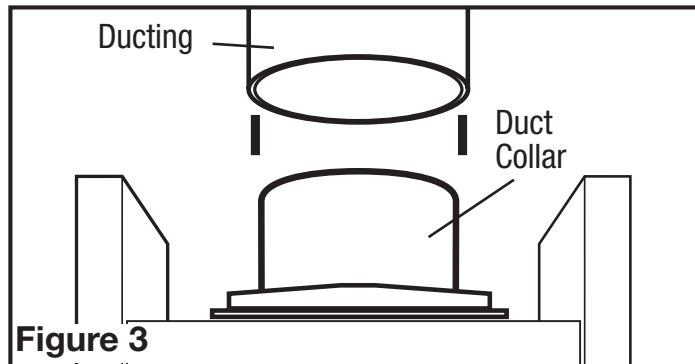

Figure 3
1. Connect the ducting to the fan's duct collar (Figure 3). Secure in place using tape or screw clamp. Always duct the fan to the outside through a wall or roof cap. It is recommended that low restriction termination fittings be used.